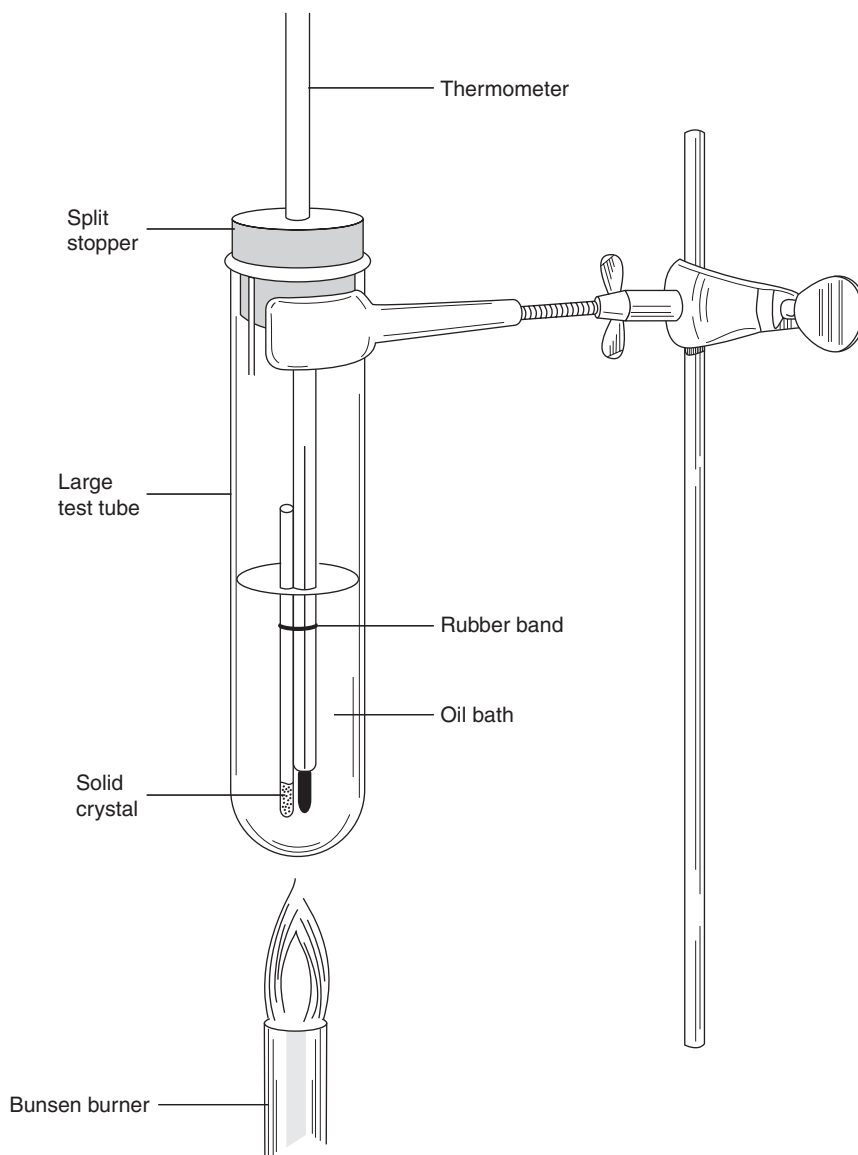

Figure 31.3
- A. Assemble the apparatus shown in Figure 31.3, using a large oil-filled test tube as the heating bath.